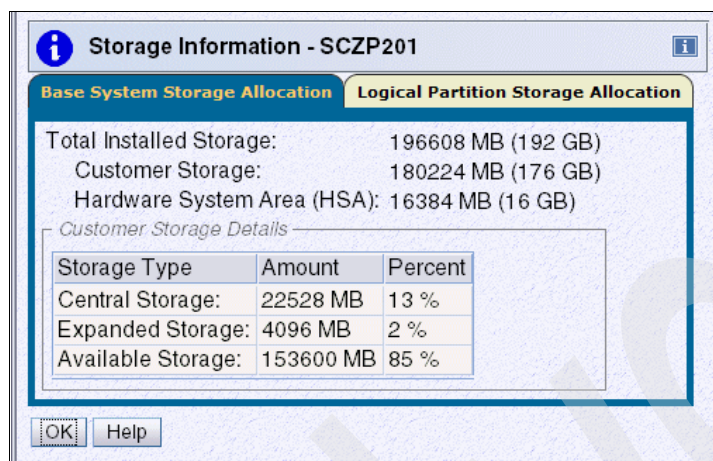

Figure 9-15 SE - Storage Information
the new logical partition, you have to confirm the size of available storage to assign to the new logical partition. Use the **Storage Information** task in **CPC Operational Customization** from the Support Element (SE) to determine the available memory (Figure 9-15). This also shows that Hardware System Area (HSA) size is a fixed value (16384 MB/16 GB). The sum of central and expanded storage that you define in the image profile must be set to a value smaller than the amount of available storage, as shown in the Storage Information panel.